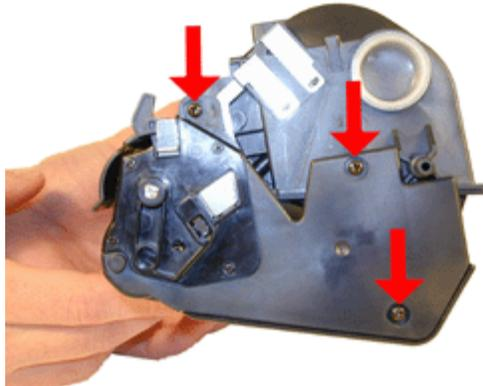

FIGURE 6
3. From the fill plug side, remove the three screws. See Figure 6